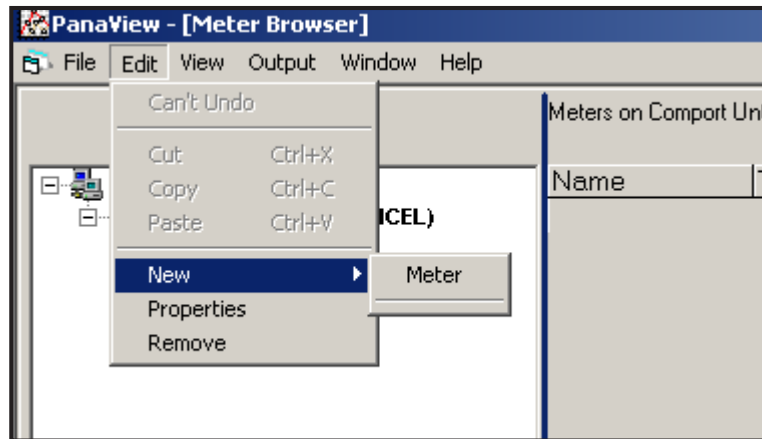

Figure 35: New Option in the Edit Menu
2. Click on the *New* option in the *Edit* menu (see Figure 35).